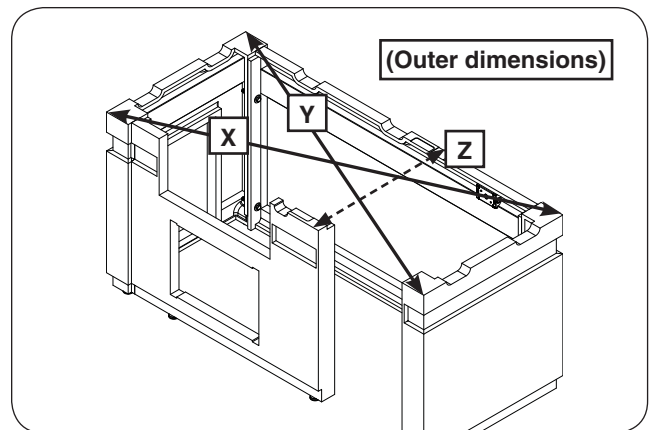

Fig. 11-2 Square unit (then tighten bolts)
- a. Measure the X outer dimension, see Fig. 11-2. It should be approximately:
- b. Measure the Y outer dimension, see Fig. 11-2. Carefully adjust the side walls as needed to ensure the X & Y dimensions are equal. (The final dimension may slightly vary from that mentioned in step a.)
- c. Measure the Z outer dimension, see Fig. 11-2. It should be approximately 30  $\frac{1}{2}$ ".